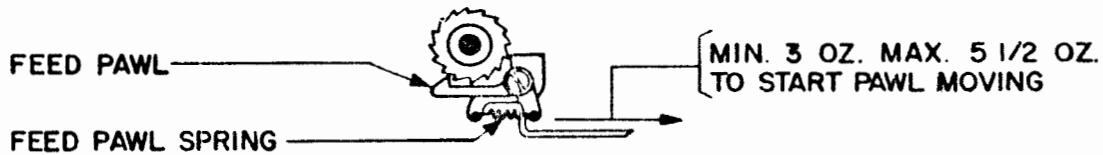

Figure 7
2.13 Feed-pawl Spring: It should require minimum 3 ounces, maximum 5-1/2 ounces to start the feed-pawl moving. (See Figure 7.)